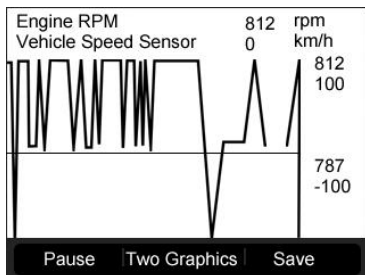

Figure 5.12
- If the “**One Graphic**” at the bottom appears when a PID is highlighted, graphic information is available. Select **One Graphic** to view the graph. (Figure 5.12). The PID name, current value, maximum and minimum values are displayed on the screen.